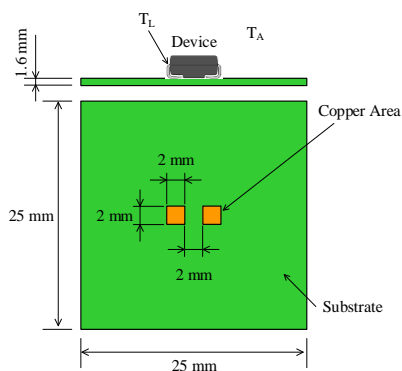

Figure 1. Lead Temperature Measurement Conditions
(1)  $R_{th(J-L)}$  is thermal resistance between junction and lead. Lead temperature ( $T_L$ ) is measured near the root of pin (see Figure 1).